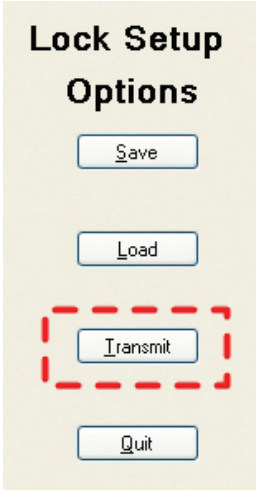

Figure 11
5. Click on the **Transmit** button in the software (Figure 11).